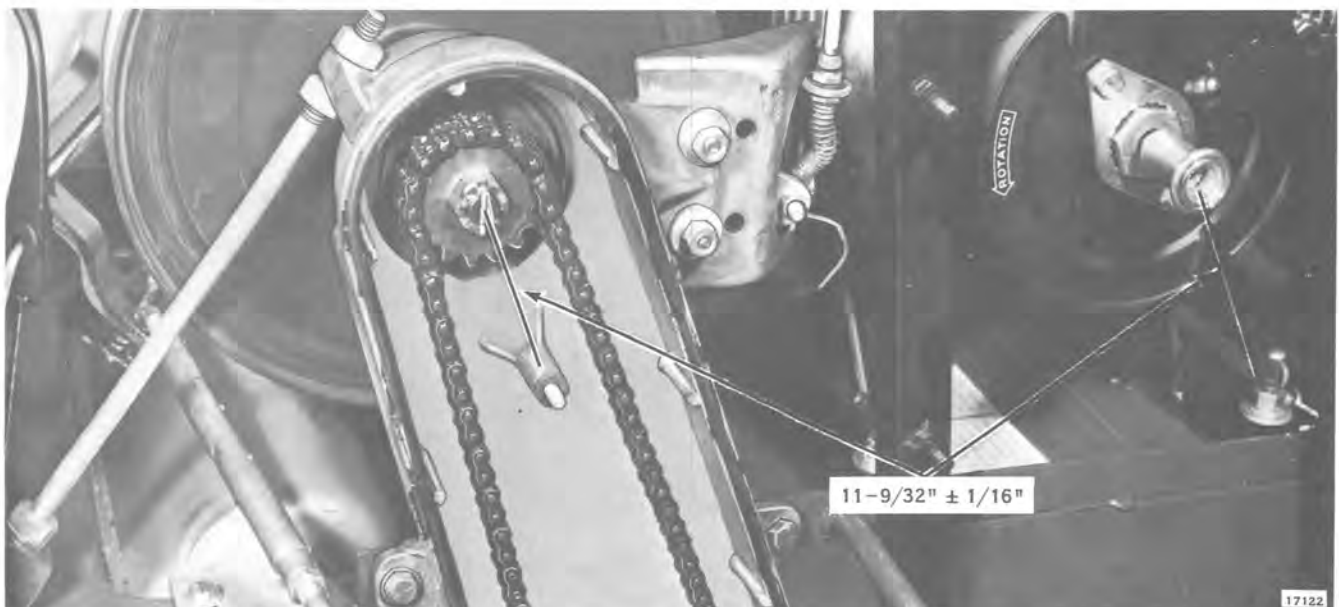

Figure 10-22
24. Check for proper position of secondary drive assembly. Distance from center of primary drive shaft to center of secondary drive (top) sprocket must be $11-9/32" \pm 1/16"$. See Figure 10-22.